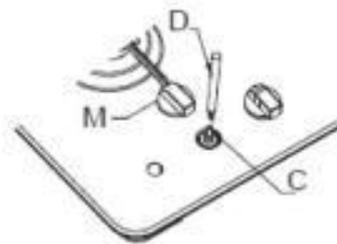

Abb. 7
- The adjustment of the reduced rate position is as follows (Fig. 7): Light the burner and turn the knob to reduced rate position.